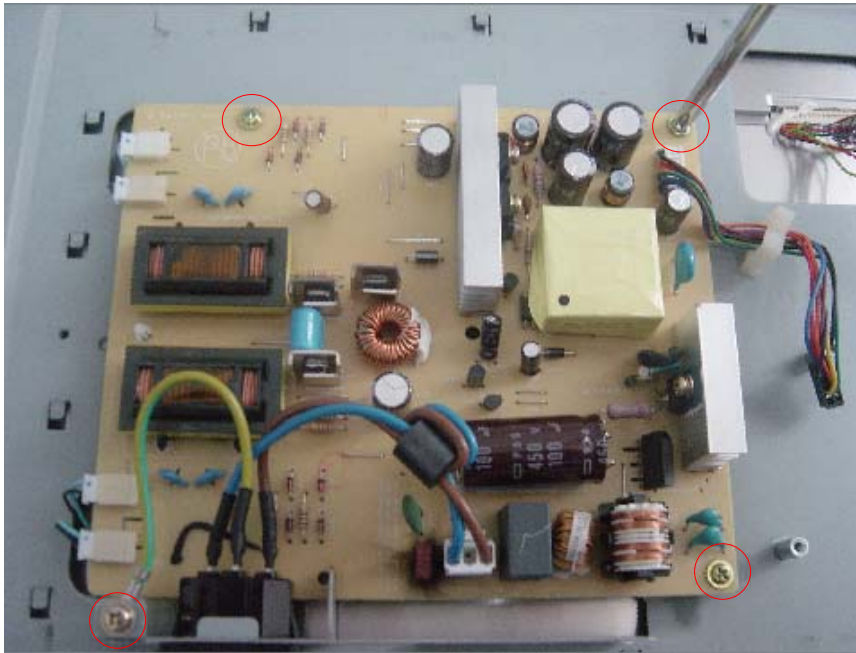

Fig 10
1. Remove four screws to release power board. (Fig 10)